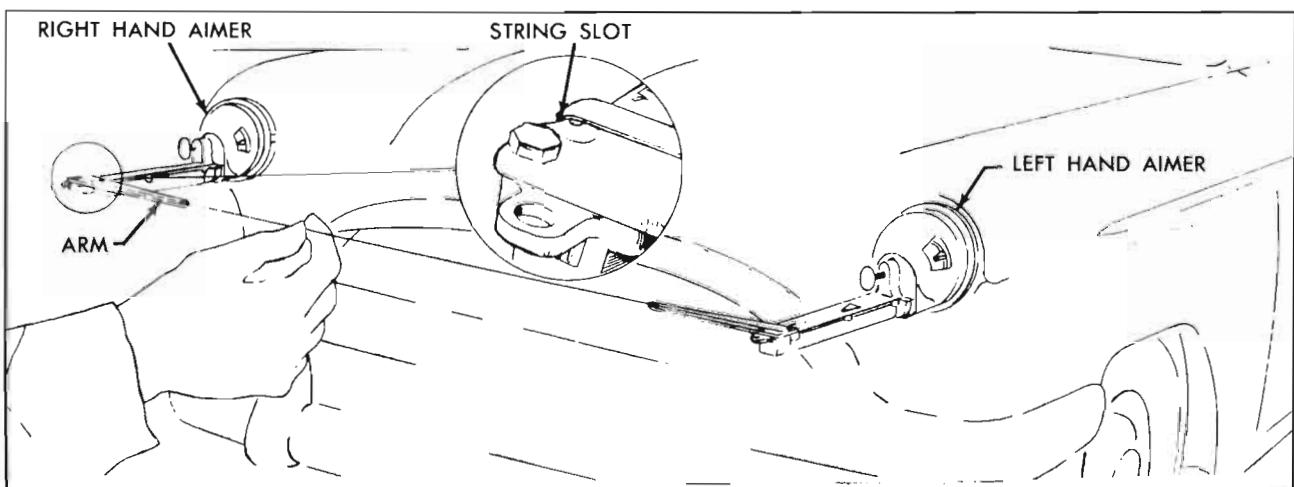

Figure 10-53—Positioning String
4. With aimers in place, position the knots on each end of the elastic string in the slots provided on both aimers. Car doors must be closed and car rocked gently sideways to equalize springs, prior to checking and adjusting headlamps. See Figure 10-53.